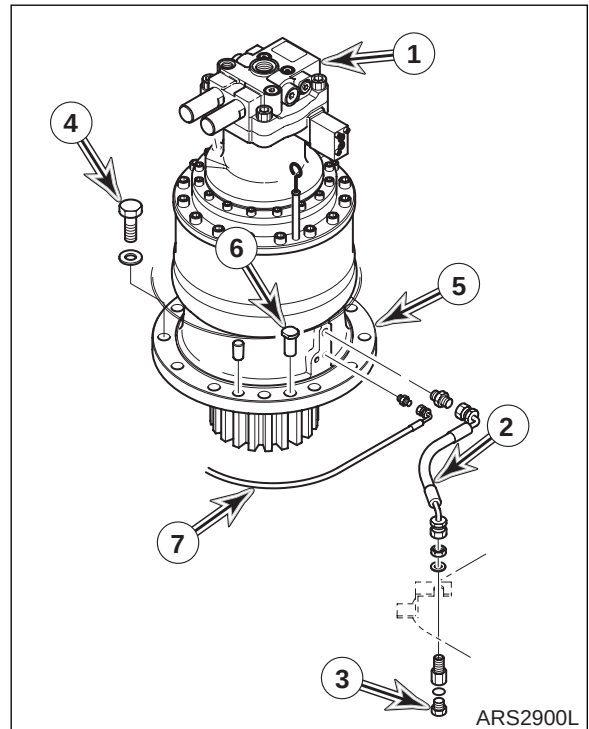

Figure 34
2. Make sure two alignment pins (6, Figure 34) are installed in flange of swing reduction gearbox (5).
3. Using a suitable lifting device, sling swing motor (1, Figure 34) and position swing motor and reduction gearbox (5) as an assembly on unit.
4. Install twelve bolts and washers (4, Figure 34) to secure swing reduction gearbox (5) to frame.
5. Install drain plug (3) to frame.
6. Connect and grease lubrication line (7, Figure 34) to reduction gearbox (5).
7. Connect hoses as tagged during removal to swing motor (1, Figure 34).